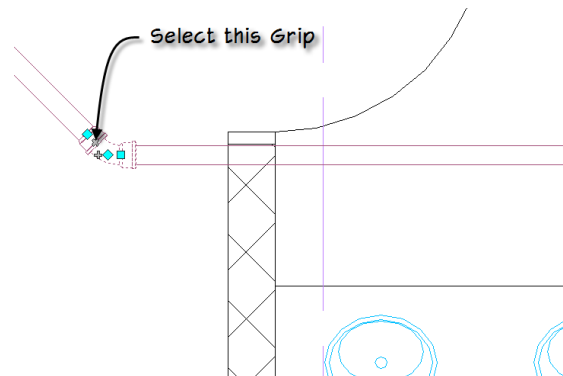

Figure 6.63
22. Select the 45-degree elbow in the corridor, and then click the plus grip (+) that appears pointing toward the Men's Room (see Figure 6.63). This will upgrade the 45-Degree Elbow into a Lateral.